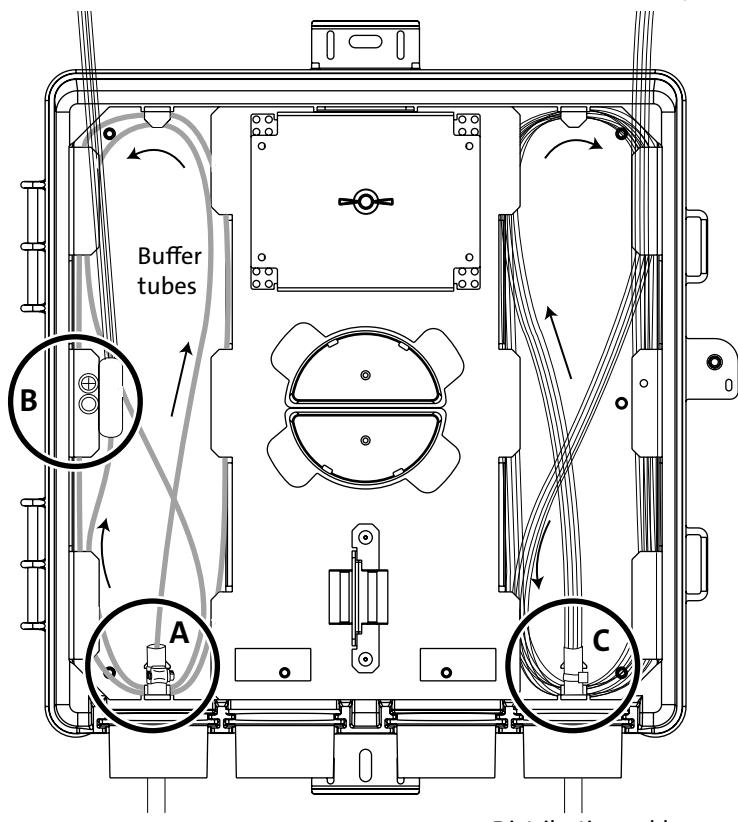

Figure 5
Step 4: Route feeder cable (Figure 5):
Step 6: Route distribution cable as shown in Figure 5.